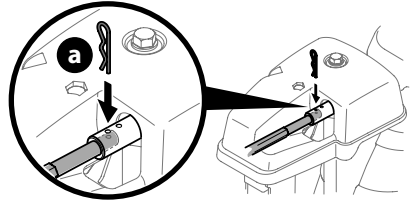

Figure 45
- Pull out chute control rod until hole in it lines up with second hole in chute control head (Figure 45).